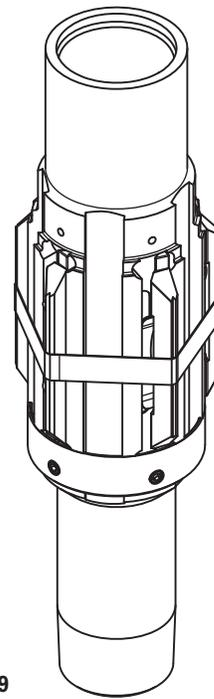

Figure 9
- 4.) Use an assembly ring or cinch rope to draw in the anchor blocks close to the body. (Fig 9.)